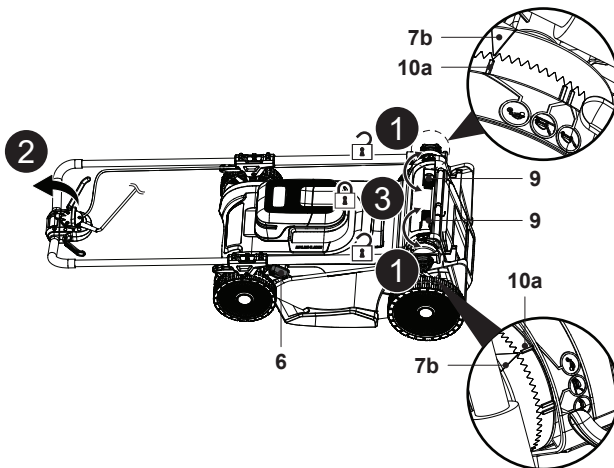

Fig. 21
- Remove the grass catcher (8) / mulching insert (24).
- Set the lever for cutting height adjustment (13) to the lowest position.
- Loosen two clamp levers (9), then completely fold the handle assembly (Fig. 21, steps 1, 2).
- Secure the connections by locking the two clamp levers (9) and ensure that the indicating triangle (7b) is aligned with parking indicator (10a) to avoid scattering (Fig. 21, step 3).